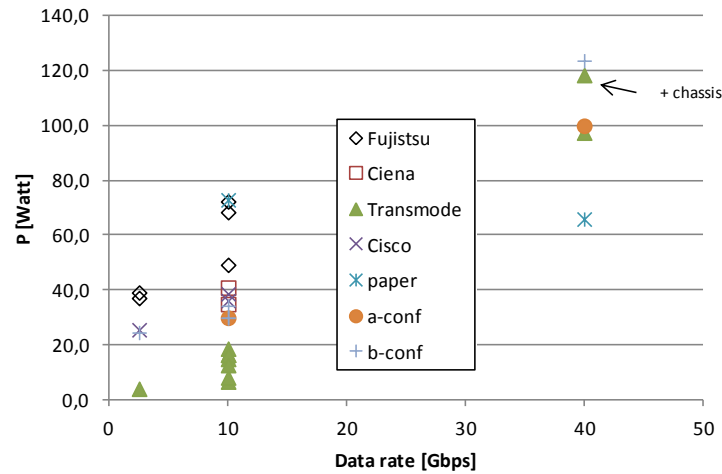

Figure 3 Transponder power consumption in function of the data rate
- From Figure 3: Fujitsu has higher values, because these values are based on complete systems (including management shelf). The percentage of overhead ranges from 22% to 42%.
- From confidential data (a-conf and b-conf in Figure 3), we see that the influence of the line side maximum transmission distance is of (arguably) minor influence on the power consumption. A 10G transponder with reach up to 1200 km consumes about 15% more than its 200 km version. Given the range of power consumption values for the different equipment and the fact that it is not always clear from the data sheets what the maximum supported reach is, we do not make a distinction based on the reach.
Based on the distribution in Figure 3, we assume the following **typical power consumption values**, including chassis and management overhead power consumption: